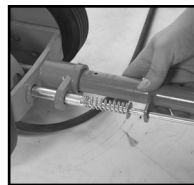
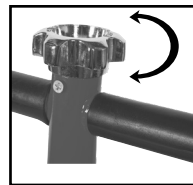

Fig.7
Fig.8
6. Insert the lower handle tube in the handle yoke while simultaneously inserting the locking rod (4) in the handle yoke guide holes. (Fig. 7)
7. Raise the lock lever (3) on the handle assembly (2) up so the locking rod (4) does not have to come in contact with the handle yoke.
8. Rotate the release knob (1) at the top of the handle assembly (2) back and forth until the bottom of the handle assembly (2) engages the release knob (1) cable inside and at the bottom of the handle yoke. (Fig. 8)